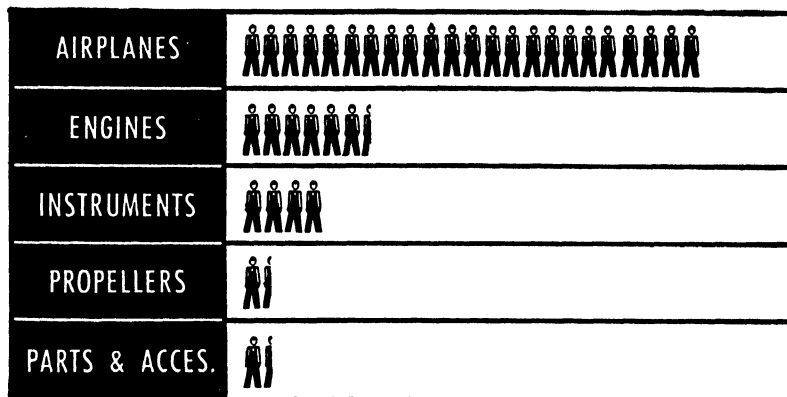

Fig. 143.—(Courtesy of Aviation.)
3. Draw up a table of data showing the number of employees in each type of work represented in Fig. 143.